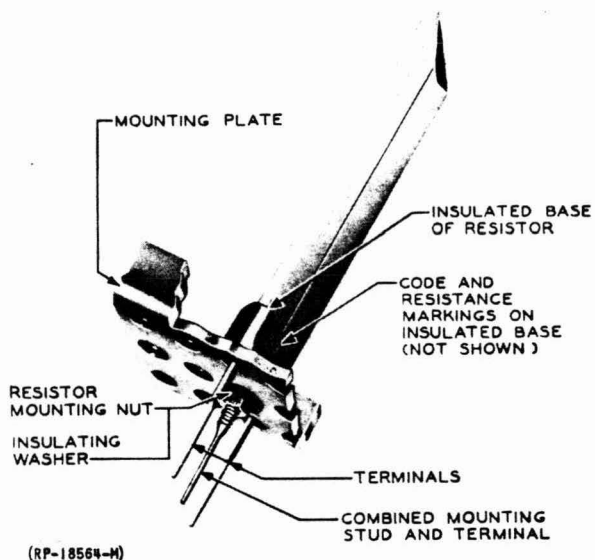

FIG. 1 MOUNTING OF 18 AND 19 TYPE SINGLE STUD RESISTORS (PAR. 3.1)
3.1 18 and 19 Type - Mount single stud and double stud 18 and 19 type resistors as shown in Figure 1, 2 and 3.
(BSP 032-140-811 FIG. 1)